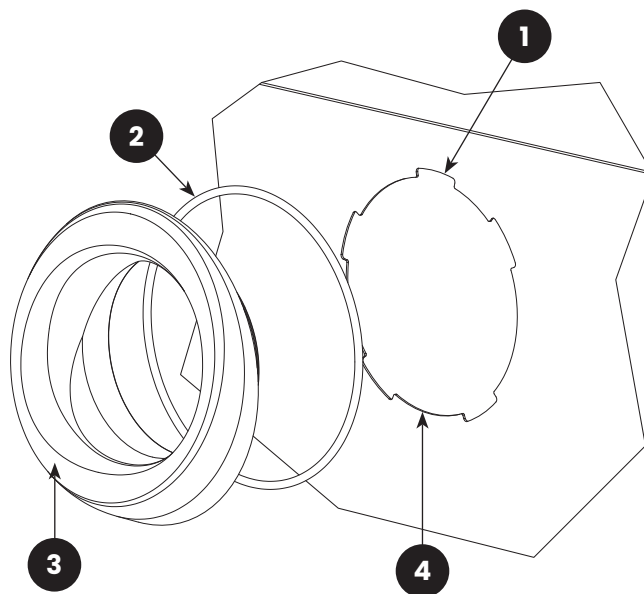

**FIGURE 8:** (1) Glove Mount Locking Slot; (2) O-Ring; (3) Armrest Glove Mount; (4) Cabinet Glove Opening
### 6.2 | Quick-Change Gloves and Glove Mounts – Figure 8
**6.7.2.4** | Lay a section of strip gasket along the edge of the opening and cut to length, allowing 3/4" overlap on each end. Peel a short section of adhesive backing and adhere the strip gasket to the top edge of the light opening, as shown in Figure 8. Press the gasket to bond. Repeat the process for each side, compressing the ends to seal.